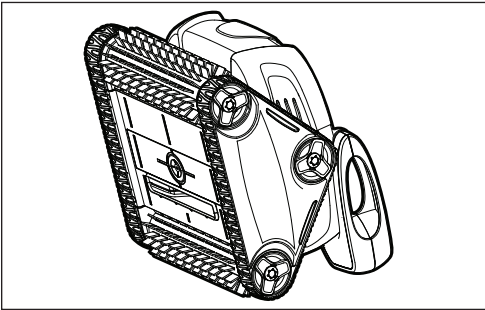

Figure 16. Stand Cleaner Upright
1. Stand the cleaner on its end in a vertical position (Figure 16).